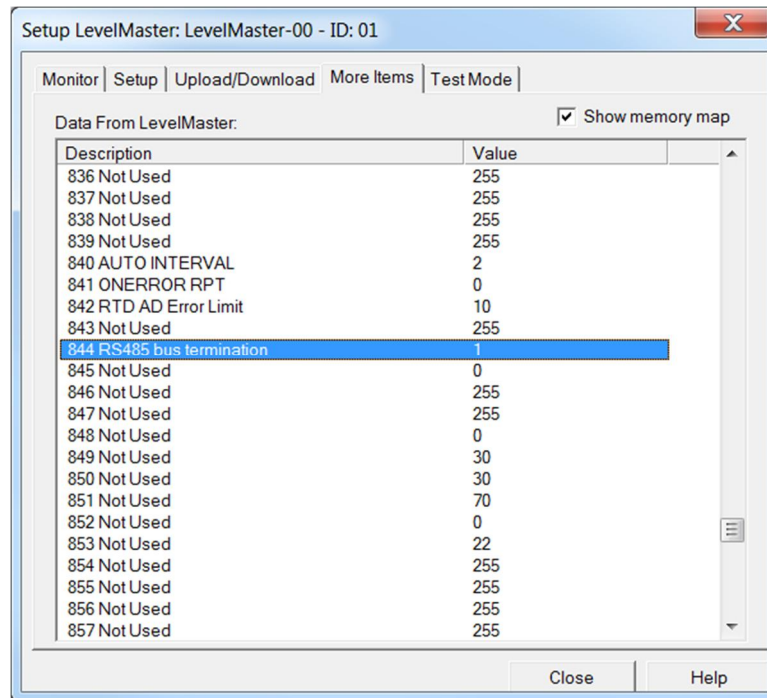

Figure 45: RS-485 termination configuration for only or last LevelMaster
8. Verify that the RS-485 termination address is now set to 1 (Figure 45).